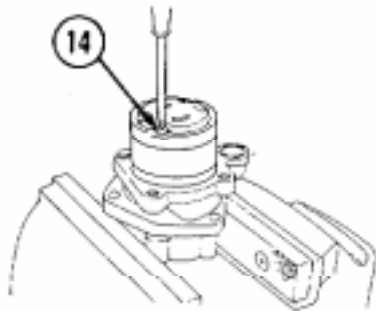

Figure 2.
2. Remove inlet connector (5) and O-ring (6).
4. Remove rear body (7) and O-rings (9, 10, 11 and 12) by removing bolts (8).
5. Remove pressure plate (13) and cartridge assembly (14) by removing screws (15) as shown in Figure 2.
6. Remove straight pins (19).